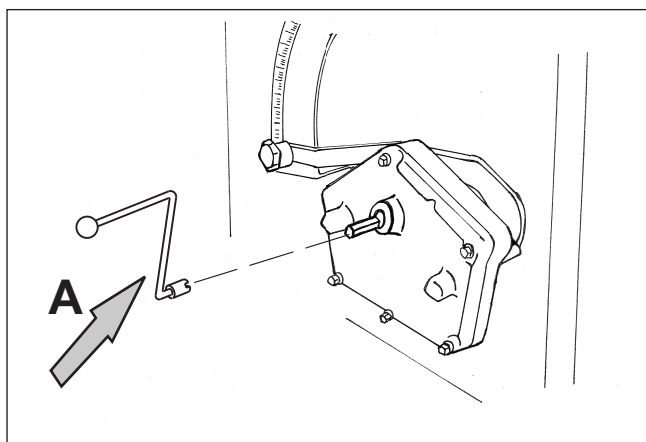

Fig. 4H. Test sowing handle.
Attach the test sowing handle (A) - see fig. 4H and turn it clockwise until the seed/fertilizer flows from all of the outlets.